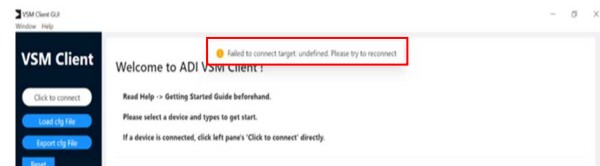

Figure 25. Failed to Connect Target Error
- ▶ **Failed to connect target: undefined. Please try to reconnect.** If this pop-up appears (see Figure 25), select another COM port and reconnect.